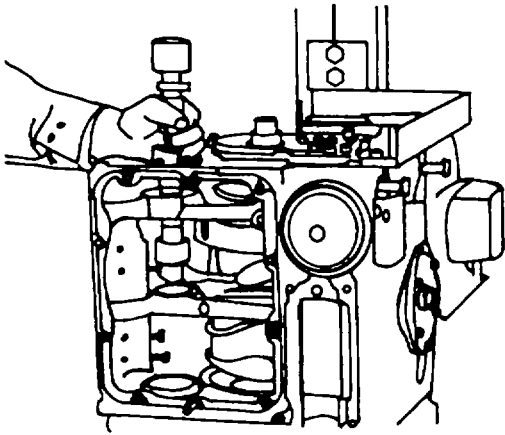

Figure 5-8. Remove Camshaft
- c. Remove upper and front camshaft covers (figure 5-8).